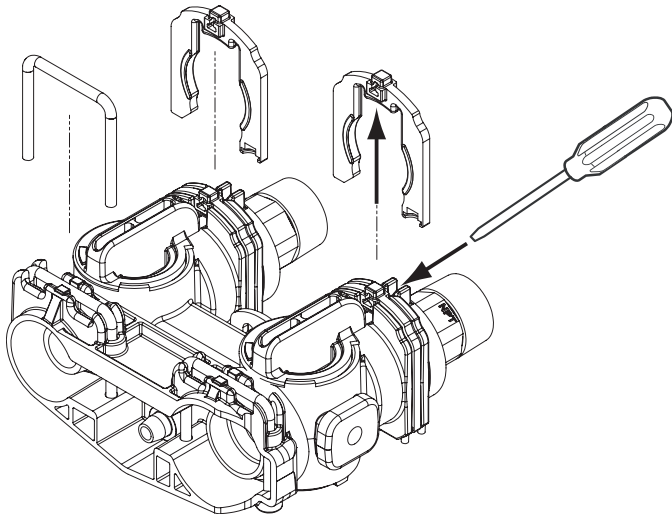

Figure 8 Connector Assembly
1. Locate parts and a roll of Plumber's tape. The plumbing adapters should be removed (Figure 8 Connector Assembly).
3. Remove the clip by inserting a flat blade under the top center of the clip and lifting (prying up) (Figure 8 Connector Assembly).